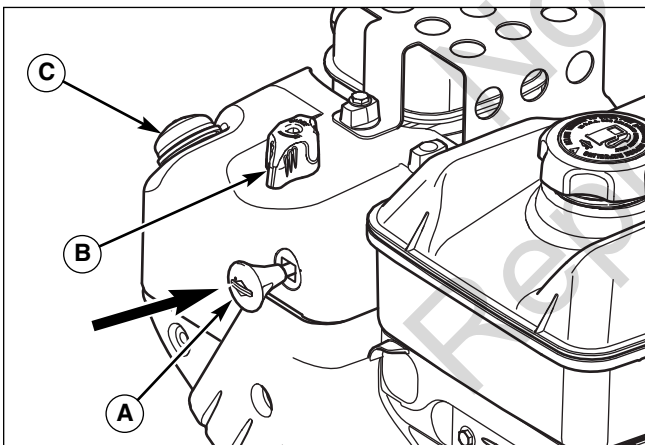

Figure 4. Safety Key, Choke, and Primer Button
4. Insert the engine key (A, Figure 4) into the engine key slot and push fully in to the RUN position.
5. Turn the choke knob (B) fully clockwise if engine is cold.